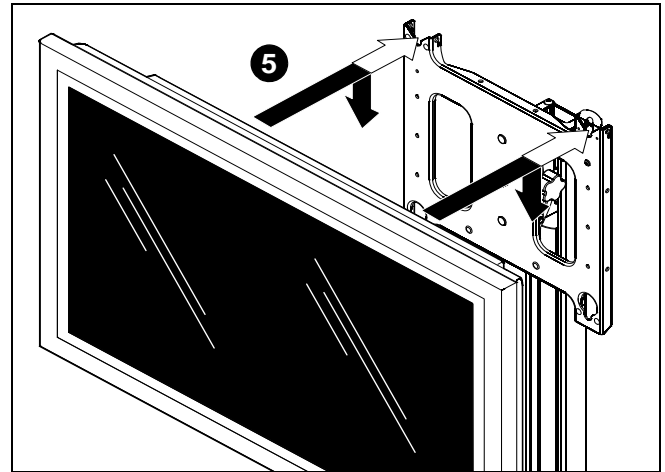

Figure 2
2. While supporting both sides of display, align four mounting buttons on display or interface bracket with four mounting holes in head assembly. (See Figure 2)